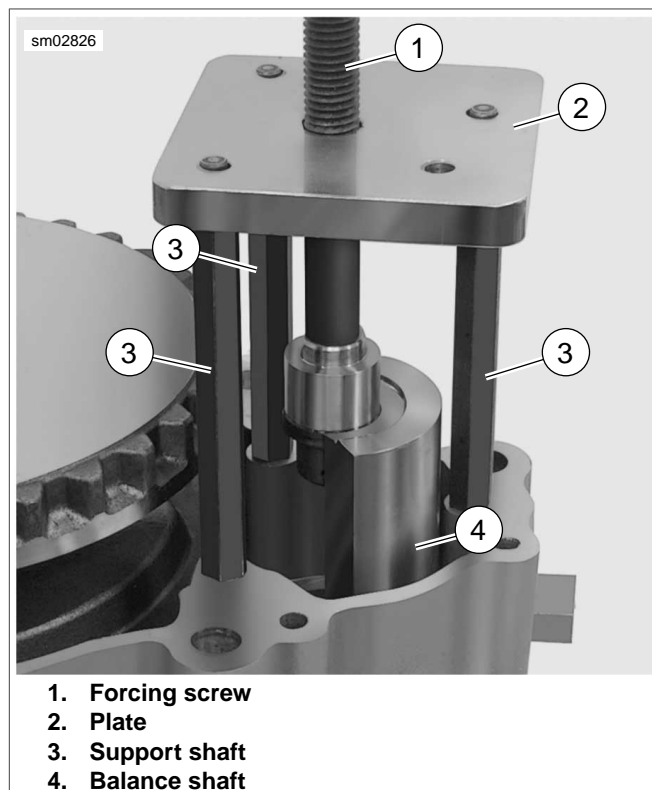

Figure 3-161. Balance Shaft Remover
2. See Figure 3-161. Assemble BALANCER SHAFT REMOVER (Part No. HD-48457).
- a. Sparingly apply graphite lubricant along threads of forcing screw (1) to prolong service life and ensure smooth operation.
- b. Install support shafts (3) in crankcase.
- c. If replacing front shaft, install plate (2) over support shafts with side marked "Front" facing up. If replacing rear shaft, install plate over support shafts with side marked "Rear" facing up.
- d. Install forcing screw in balance shaft (4).